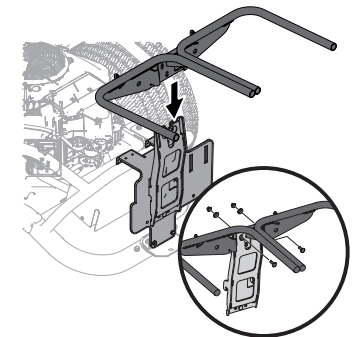

Figure 8
1. Install and secure the hanger assembly onto the upright support bracket using two carriage bolts (710-0276), two cup washers (736-0242) and two flange lock nuts (712-04063) from hardware pack 689-01419. See Figure 8.